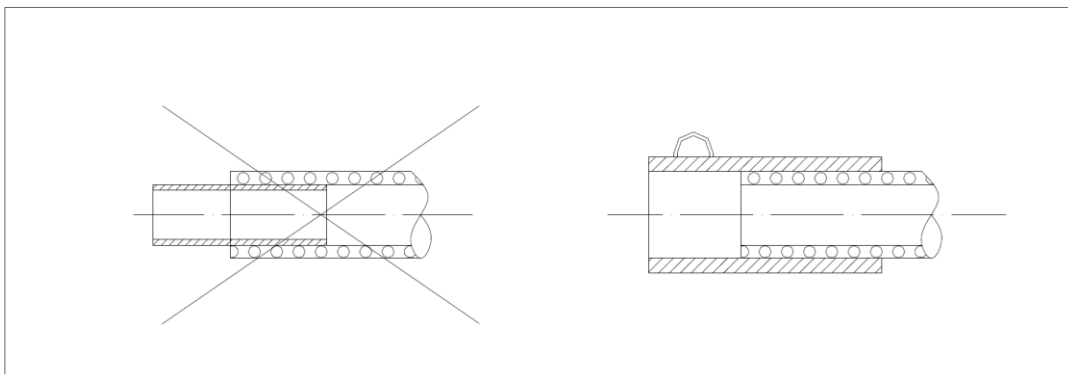

Figure 3
- avoid using the ferrule at the end of the hose, as it reduces the cross-section and increases the internal pressure in the hose. (see figure 3)